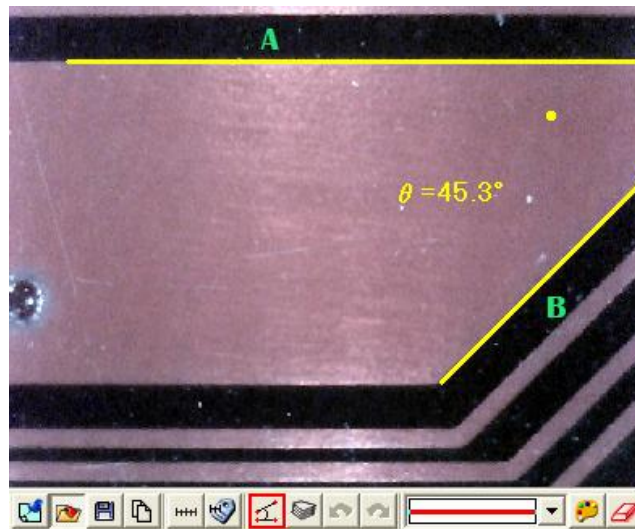

Fig 5-72 4 Points Fillet
- (9) 4 Points Angle: Use  to measure an angle but only see 2 unparallel lines shown on the object. See Fig 5-72, to draw a 1st line from the object (see line A), and to draw the other unparallel line (see line B), the angle can be automatically calculated. See Fig 5-72. There is a small dot show 45.3°.